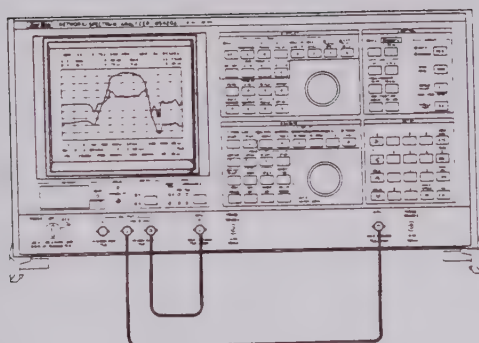

Fig. 2-34 Transmission Characteristic
5. Connection for $X \rightarrow S$ calibration is shown in Figs. 2-34 and 2-35.